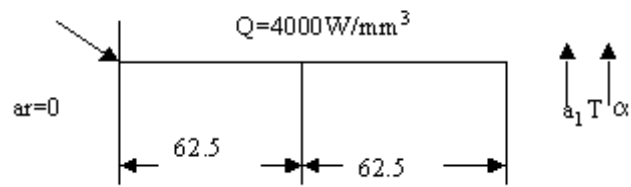

Figure 2:
6. Heat is generated in a large plate ( $K=0.8 \text{ W/m}^0\text{C}$ ) at the rate  $4000 \text{ W/m}^3$ . The plate is 25 cm thick. The outside surfaces of the plate are exposed to ambient air at  $30^\circ\text{C}$  with a convective heat transfer coefficient of  $20 \text{ W/m}^2 \text{ } ^0\text{C}$ . Determine the temperature distribution in the wall. Shown in figure 2. [16]